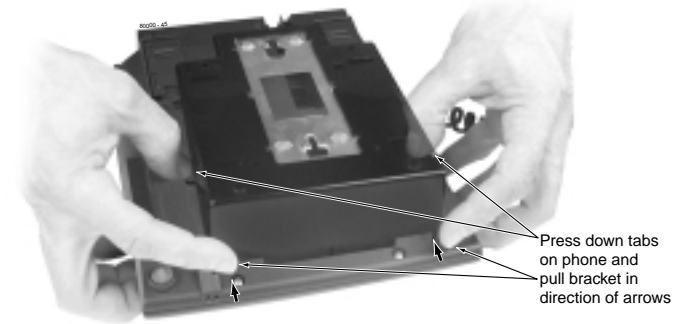

Figure 4-13 REMOVING THE WALL MOUNT BRACKET
- **To remove the telephone from the wall mount kit** (Figure 4-13):